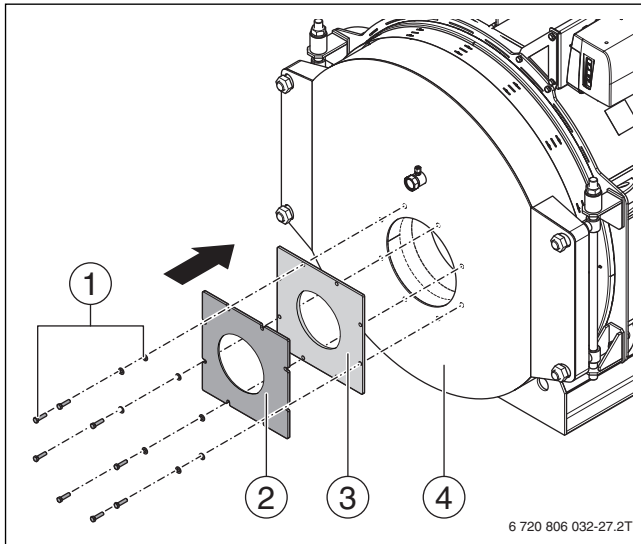

Fig. 20 Fitting the burner plate
- Push a gasket (→ Fig. 20, [3]) onto the burner connector.